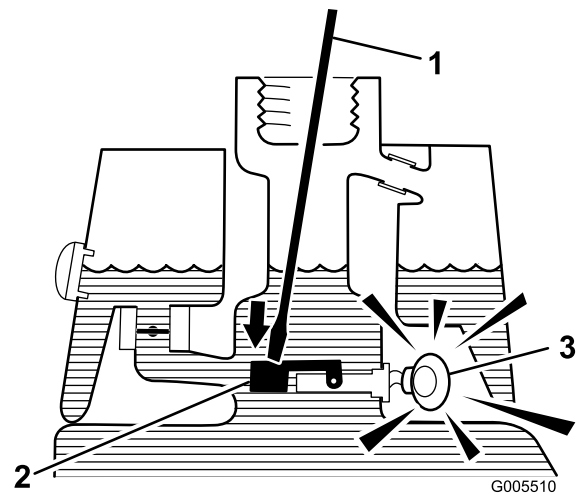

Figure 41
3. Insert a clean rod or screwdriver into the tank neck and gently push down on the switch float (Figure 41); the alarm should sound after the 1-second delay.